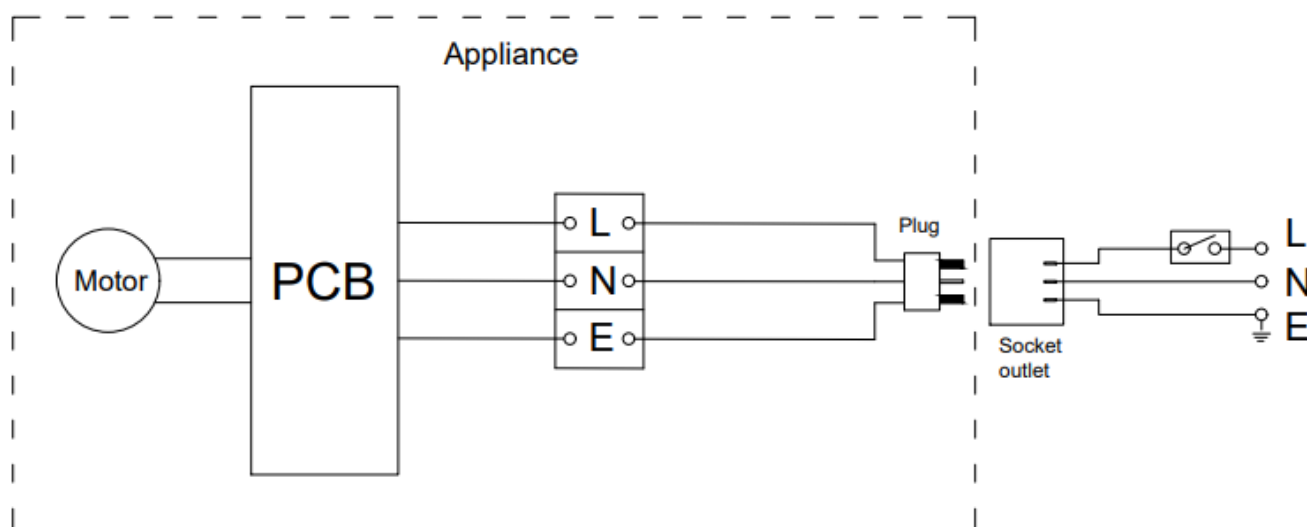

Fig. 3
- Before installation, check the installation location in the ceiling has access to a socket outlet which is connected to a wall switch. If it does not, please contact a licensed electrician to arrange installation of the socket outlet and wall switch before continuing. Refer to the circuit diagram section for more information. (Fig.3)